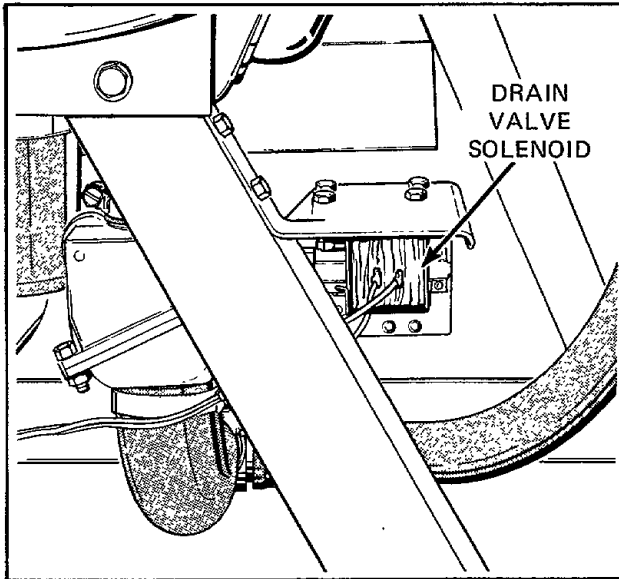

Figure 55
52. **DRAIN VALVE SOLENOID** (Refer to Figure 55)